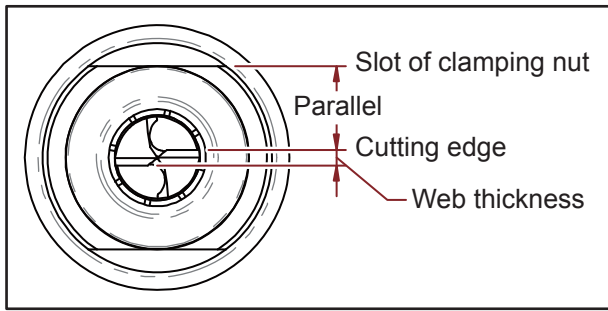

Fig. 4-7
7) After taking out the chuck set, make sure the drill's cutting edge is parallel to the slot of clamping nut. (Fig. 4-7)